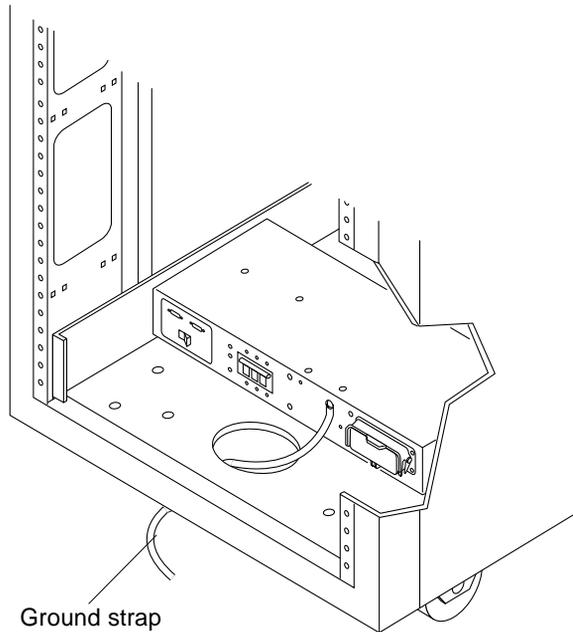

FIGURE 3-13 Connecting the Ground Strap to the Front Power Sequencer
3. **Screw the other end of the ground strap to the nearest power sequencer in the rack (FIGURE 3-13).**